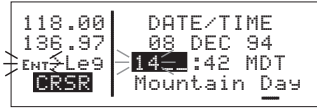

Figure 4-192
5. Select the correct hour (figure 4-192). Remember, the KLX 135 uses 24 hour time. If it is 1:00 P.M. or later, add 12 hours (for example, 2:30 P.M. becomes 14:30).